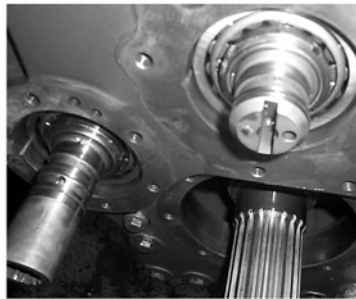

Fig. 13. Piston ring fitting procedure
3. Liberally lubricate the piston ring and its mating part before assembly. Refer to fig. 13.